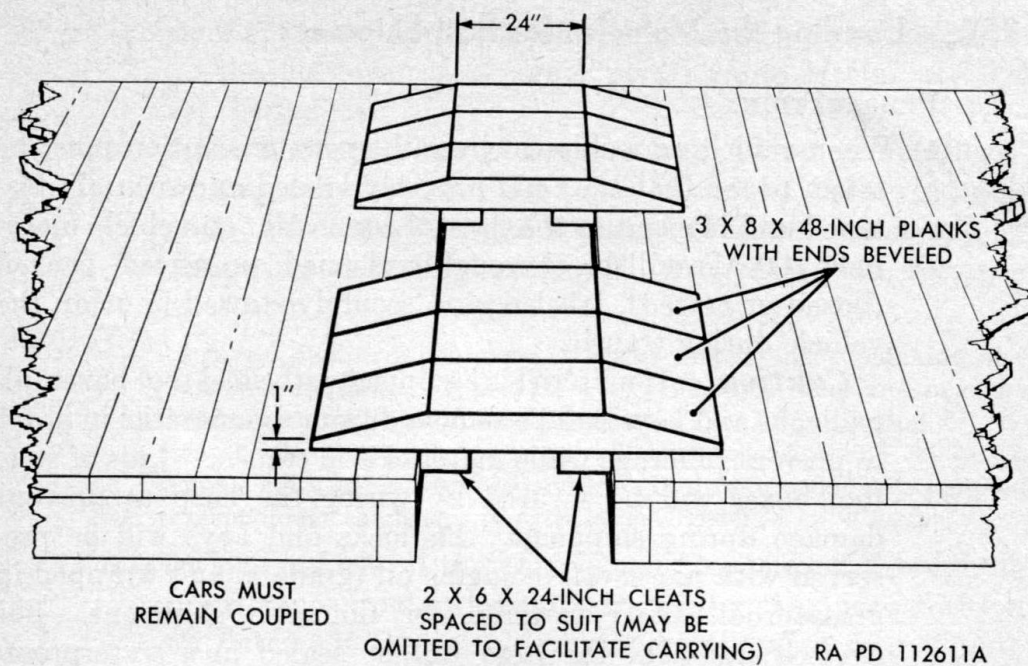

Figure 74. Construction of improvised spanning platforms.
- (d) Steel or wooden spanning platforms or bridges are used to cover the gaps between cars. Flatcar brake wheels must first be lowered to floor level to permit passage. A pair of improvised spanning platforms is shown in place in figure 74. These spanning platforms are moved along the train by hand as the vehicle advances.
- (b) Side-door boxcars are provided with either single or double rolling doors at each side and must be loaded from a platform of about the same level as the boxcar floor or from an adjacent flatcar. Automobile cars of this type have large side-door openings and present less difficulty in loading, however, ordinary boxcars may require the use of roller automobile jacks to maneuver the vehicle into place. Steel plates or spanning platforms must be used to bridge the gap between platform and car (fig. 74).